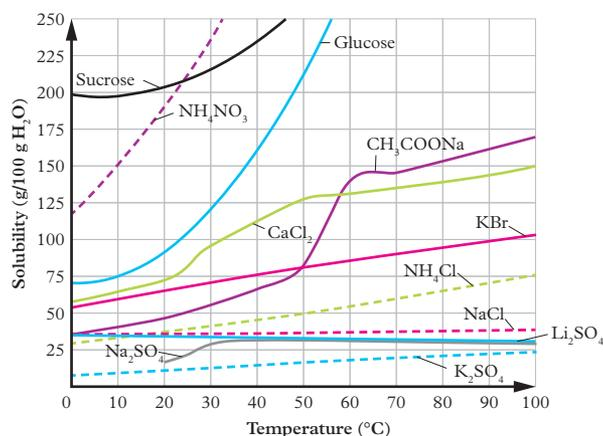

FIGURE 7 The solubility graphs of some substances in water
A **solubility graph or curve** shows the relationship between temperature and the solubility of substances. It is a graphical representation of the mass of solute that can dissolve in 100 g of water (y -axis) at a certain temperature (x -axis). Some solubility graphs for different substances are shown in Figure 7.
Step 1: Look for the CaCl_2 line on the solubility graph in Figure 7.	The CaCl_2 line is green.